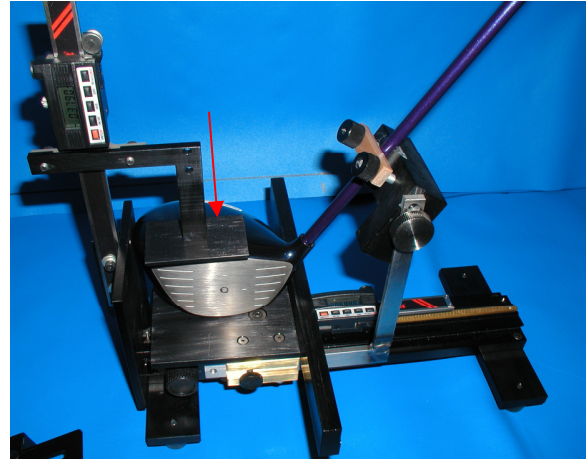

Figure 6.9-Slide Height Measurement Plate until it Rests on the Crown of the Clubhead
6.9 Lower the height measurement plate until it just touches the crown of the clubhead, and then read the value on the height scale, Figure 6.9.